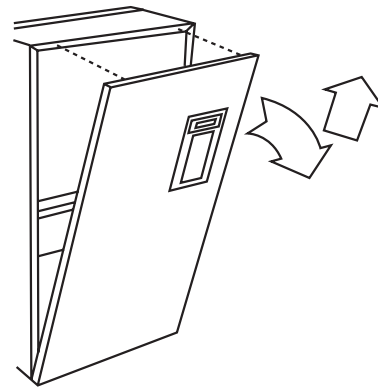

Fig. 22 - Removing Furnace Door
- (1.) Remove main furnace door. (See Fig. 22.)